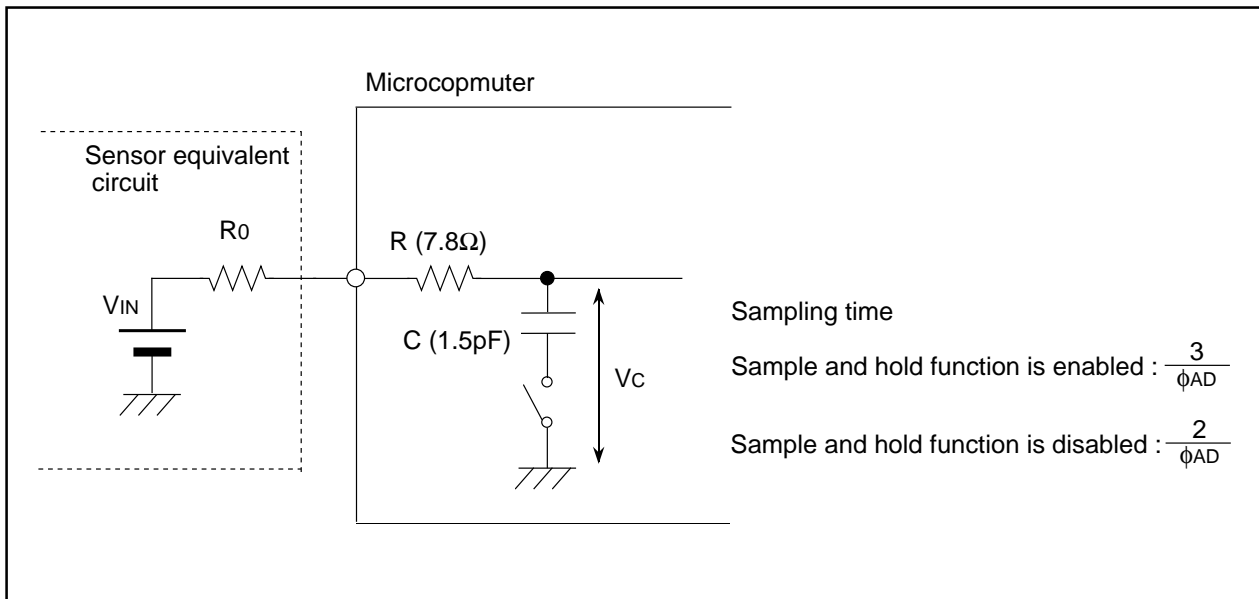

Figure 18.8 Analog Input Pin and External Sensor Equivalent Circuit
For perfect A/D converter performance, complete internal capacitor (C) charging, shown in Figure 18.8, for the specified period (T) as sampling time. Output Impedance of the sensor equivalent circuit (R0) is determined by the following equations:
Figure 18.8 shows analog input pin and external sensor equivalent circuit. The impedance (R0) can be obtained if the voltage between pins (VC) changes from 0 to VIN - (0.1/1024) VIN in the time (T), when the difference between VIN and VC becomes 0.1LSB.